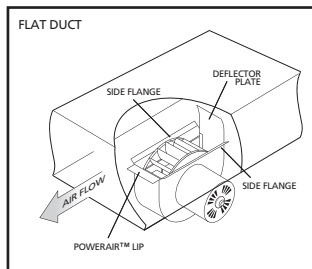

Figure 1
3. After the duct work has been properly cut, insert the PowerAir™ Fan lip INSIDE the duct opening, ( See Figure 1 & 2 ) pushing the PowerAir™ Fan housing forward and upward at the same time so that the PowerAir™ Fan housing fits snugly into the opening. The side flanges should be on the OUTSIDE of the duct. ( See Figure 1 & 2 ) NOTE : Be certain that the PowerAir™ Fan 'Deflector Plate' ( See Figure 1 & 2 ) , which curves above the blower wheel , is pointing in the direction of airflow.
Fasten PowerAir™ Fan to air duct with 4 sheet metal screws, pulling the PowerAir™ Fan up snugly against duct. If necessary, bend the side flanges ( See Figures 1 & 2 ) to conform to your particular duct size and shape.